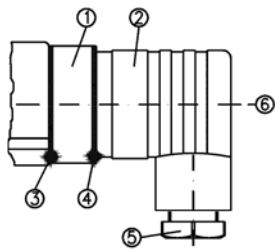

Fig. 6
(pos. 2) from the connector (pos. 1) (Fig. 6). Pull the central screw out of the junction box.